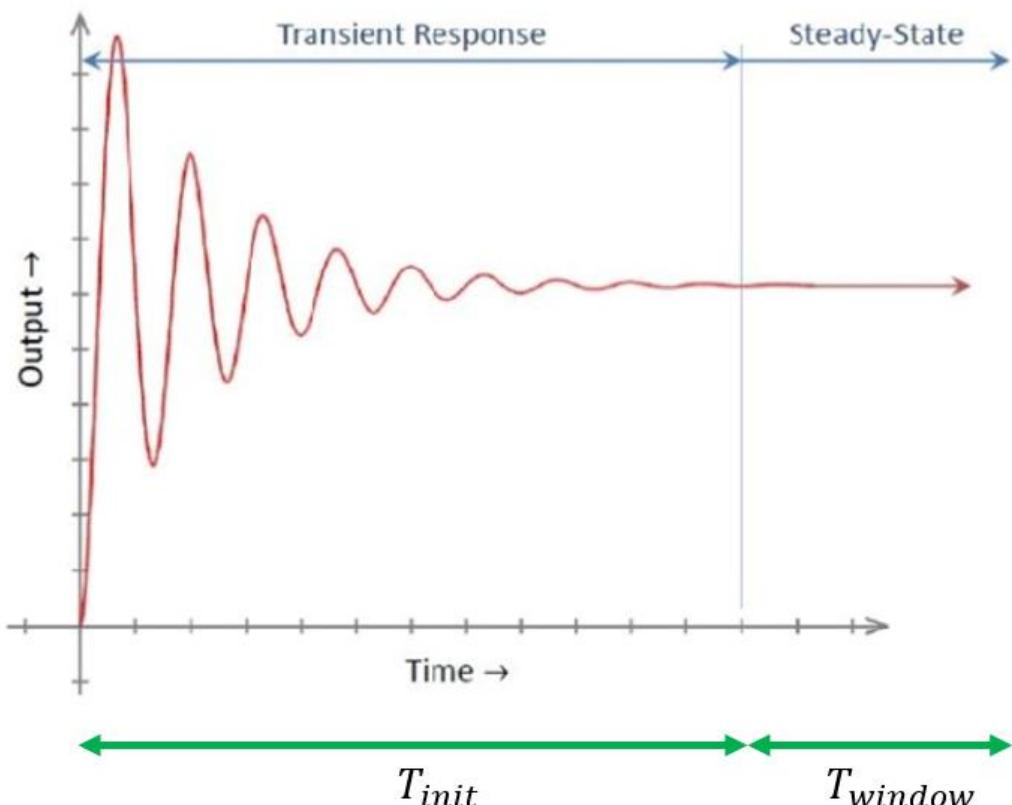

Figure 5. Details in the selection of T_{init} .
- `Tinit`: This parameter defines the time at which the system reaches a steady state. It is set arbitrarily by the user based on prior observation of the system's transient behavior. In other words, it should correspond to the moment when the initial transient has passed and all controllers and system dynamics are active. Figure 5 shows a practical example of how to identify this time in a simple transient. As illustrated, T_{init} would be the point where the system is stable and ready to receive perturbations for small-signal identification.